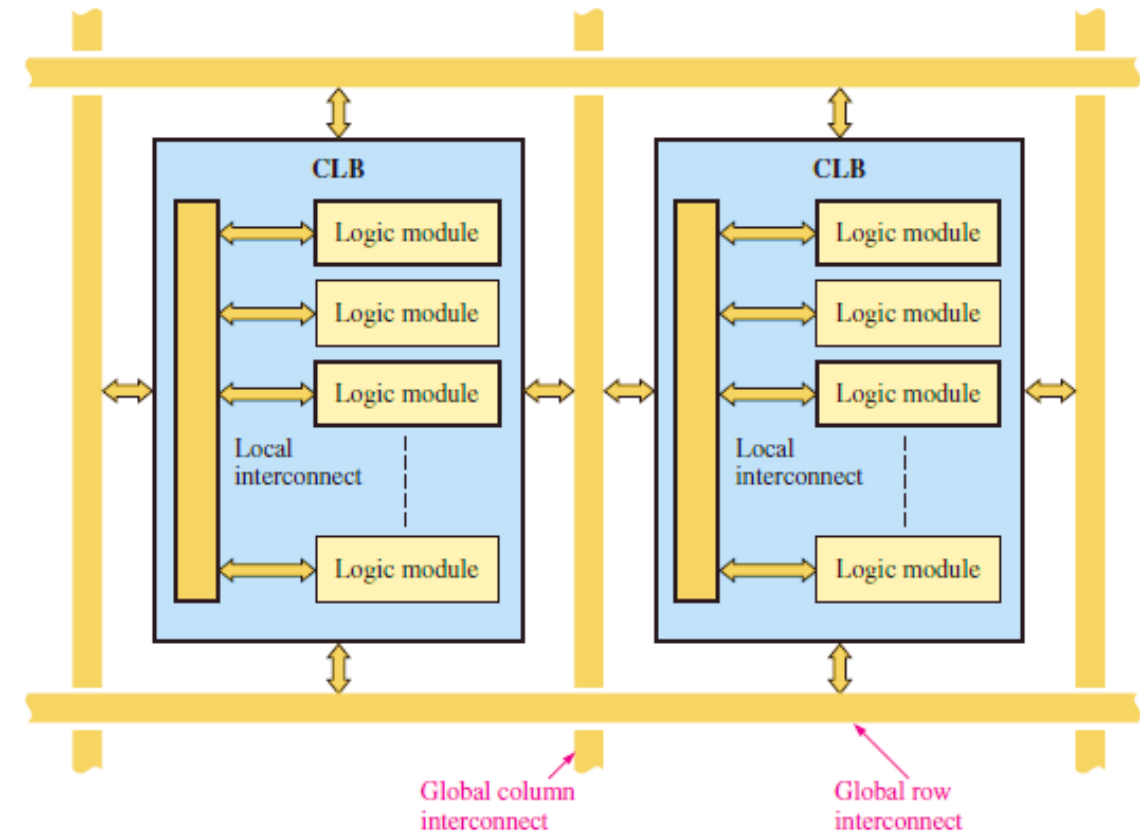

FIGURE 10 Basic configurable logic blocks (CLBs) within the global row/column programmable interconnects.
- ❖ Figure 10 shows the fundamental configurable logic blocks (CLBs) within the global row/column programmable interconnects that are used to connect logic blocks.